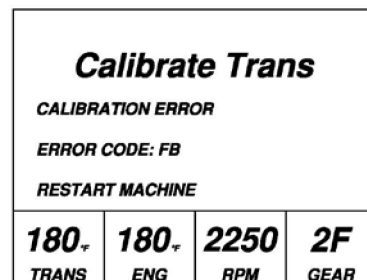

Figure 7
12. If there is an error during the calibration it will end with the error screen in Figure 7. Refer to the ZF Fault Code List to determine the error code. Resolve the error, restart the machine and return to step 4 to rerun the cal.